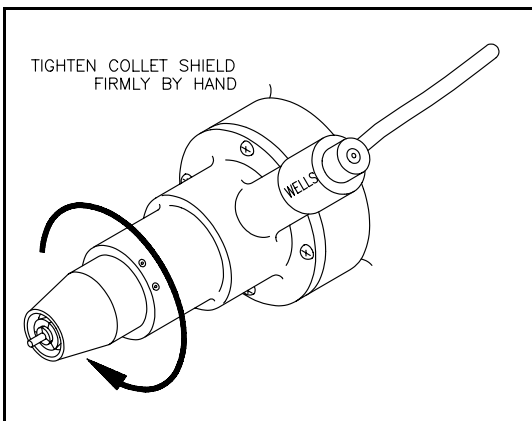

Figure 4.
- 2.3 Screw the collet shield onto the threads rotating **CLOCKWISE**. See Figure 4. Tighten firmly by hand.
- 3.3 Screw the collet shield onto the threads by rotating **CLOCKWISE**. See Figure 4. Tighten firmly by hand.